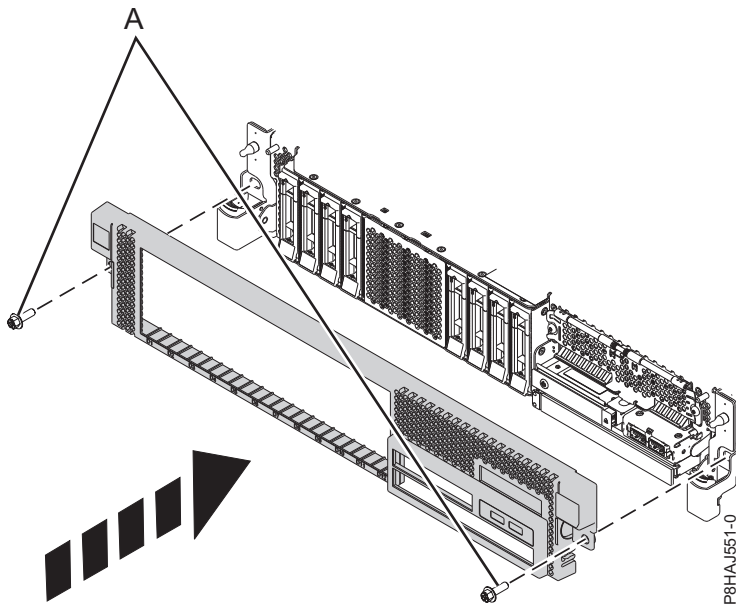

Figure 32. Installing the front cover
3. Close the release latches by pushing in the direction shown in Figure 32 on page 48. The cover snaps into place and has an indentation where you can hold onto it more easily.
4. Replace the shipping screws (A).